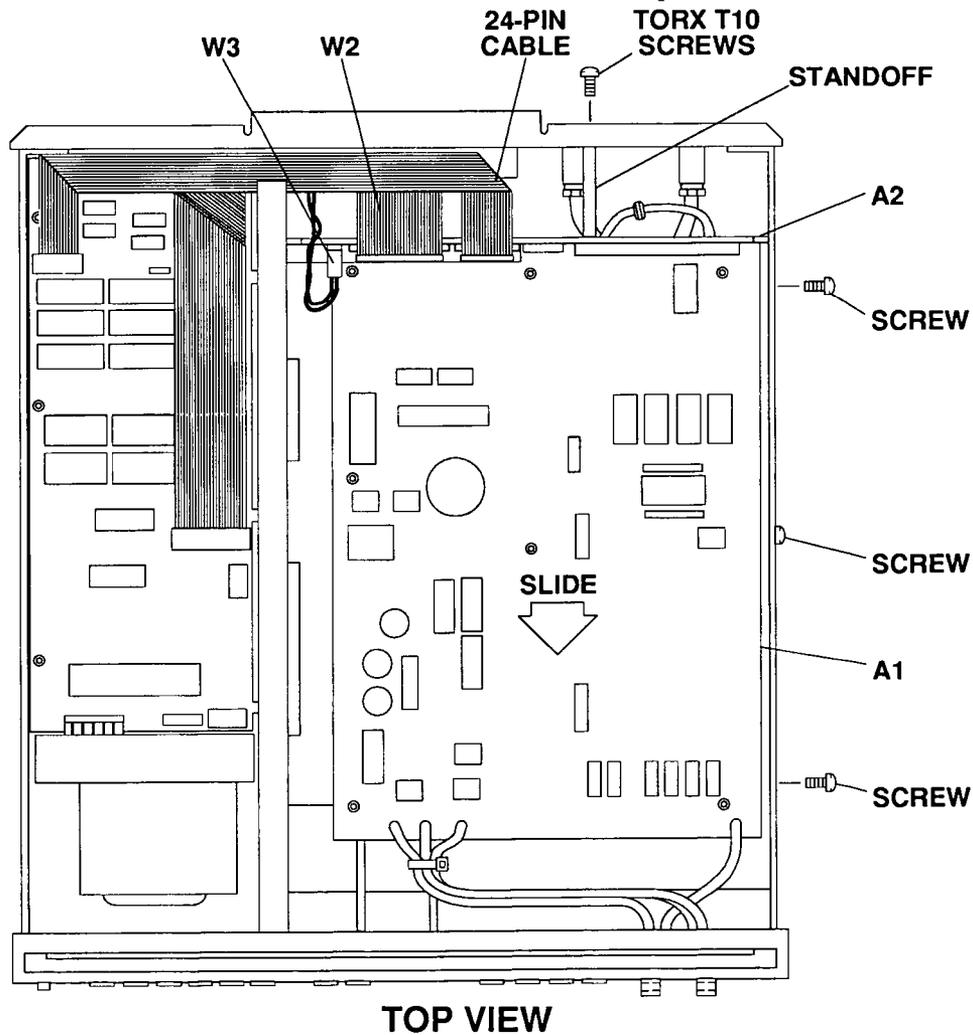

Figure 3-5. Remove and Replace A2 Backplane PCA
3. Disconnect W2, W3, and 24-pin cable assembly from the A2 Backplane PCA (refer to Figure 3-5).